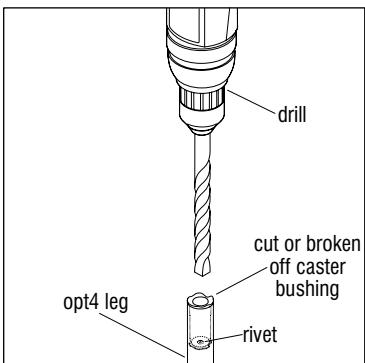

Figure 2
3. Then, using a drill and $\frac{3}{8}$ " drill bit, drill out the steel rivet that attaches the caster bushing body to the retainer clip (Figure 2).